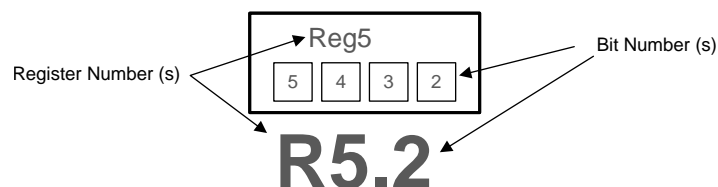
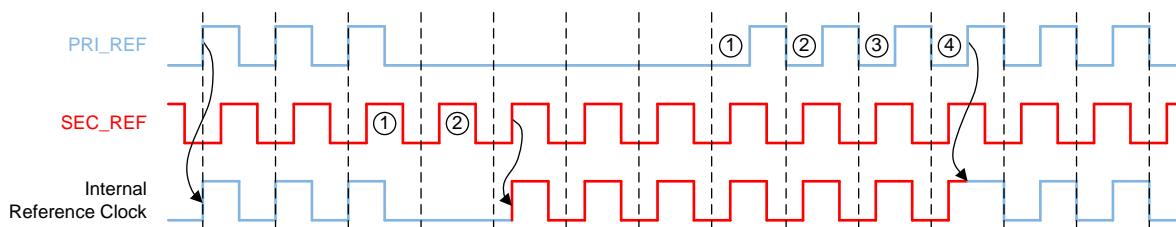

Figure 42. LMK03328 Register Reference Format
Figure 43. Smart Input MUX Auto-Switch Mode Timing Diagram
Figure 42 shows the method that this document employs to refer to an individual register bit or a grouping of register bits. If a drawing or text references an individual bit the format is to specify the register number first and the bit number second. The LMK03328 contains 124 registers that are 8 bits wide. The register addresses and the bit positions both begin with the number zero (0). A period separates the register address and bit address. The first bit in the register file is address 'R0.0' meaning that it is located in Register 0 and is bit position 0. The last bit in the register file is address 'R31.7' referring to the 8th bit of register address 31 (the 32nd register in the device). Figure 43 lists specific bit positions as a number contained within a box. A box with the register address encloses the group of boxes that represent the bits relevant to the specific device circuitry in context.
In the automatic mode, the frequencies of both primary (PRIREF) and secondary (SECREF) input clocks have to be within 2000-ppm. The phase of the input clocks can be any. In order to minimize phase jump at the output, it is recommended to set very low PLL loop bandwidth, set R29.7 = "1", R51.7 = "1" and those outputs that are not be muted should have its respective mute bypass bit in R20 and R21 be set to "0" in order to ensure that these outputs are available during an input switchover event. In the case the primary reference is detected to be unavailable, the input MUX automatically switches from the primary reference to the secondary reference. When primary reference is detected to be available again, the input MUX switches back to the primary reference. When both primary and secondary references are detected as unavailable, the input MUX waits on secondary reference until either the primary or the secondary reference is detected as available again. In the case where both the primary and secondary reference inputs are detected as unavailable, LOS is active and the PLL outputs are automatically disabled. The timing diagram of an auto-switch at the input MUX is shown in Figure 43.